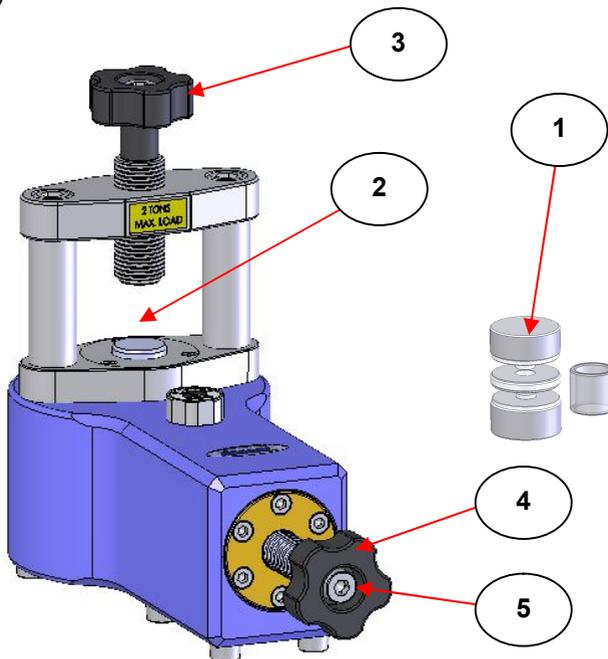

Fig 1. Mini-Pellet Press and 7mm Pellet Die Assembly
Pressing a sample in the Mini-Pellet Press is simple and quick. Taking the 7mm pellet die assembly (P/N GS03950) (1) as an example die to use, it is easily located within the pressing area of the Mini-Pellet Press (2). The lead screw assembly (3) is turned until hand tight to secure the 7mm pellet die assembly (1) in position in readiness to turn the pressure screw hand knob assembly (4). Only a light force is needed to turn the pressure hand knob (4) to provide a sufficient tonnage load, but the M8 Allen key provided can be used to turn the central socket screw (5) for greater leverage if desired. The produced 7mm KBr pellet is retained within the pellet die ring holder body (6) and this is transferred to a 3" x 2" slide mount (7) to fit in the spectrometer. (See Fig 1.)